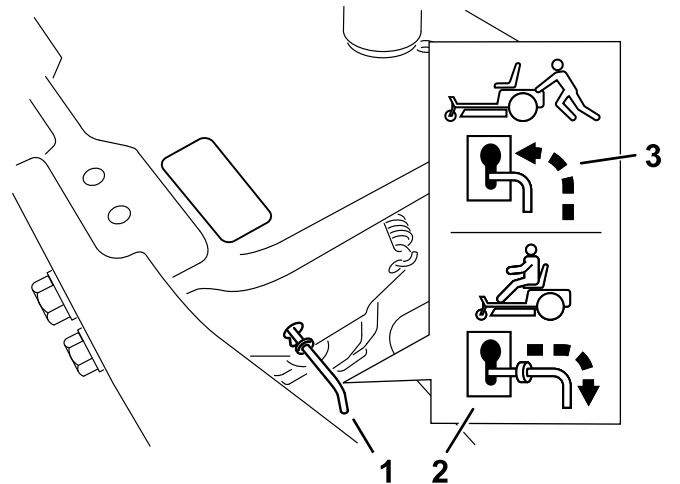

Figure 32
4. Move the bypass levers forward through the key hole and down to lock them in place (Figure 32).
Move the bypass levers rearward through the keyhole and down to lock them in place as shown in Figure 32.